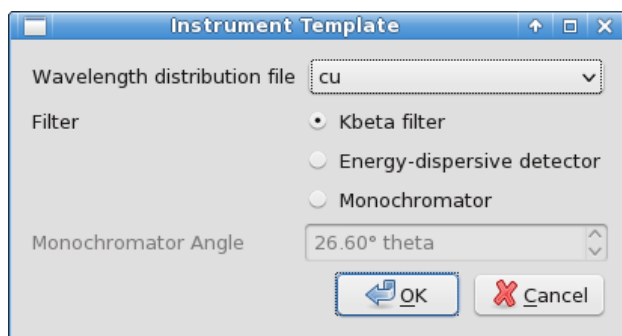

Figure 6: If no instrument template file is found, a dialog will ask for basic information on the radiation and monochromatization.
**Generate default control file:** If this option is checked, Profex will generate a default control file for the selected instrument configuration. If a template file is found (section 4), it will be used to create the control file. Else Profex will present a dialog asking for basic information about the instrument configuration (Fig. 6). If the option is active, an existing control file will be overwritten. The default state of this option depends on the presence of a previous control file: